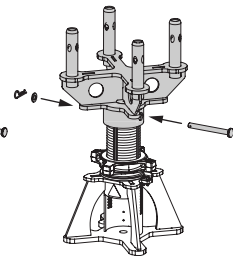

Fig. 23d
4. Insert connecting bolts into the Connector UJC. (Fig. 23d)
5. Attach plate and secure by means of cotter pins. (Fig. 23d)